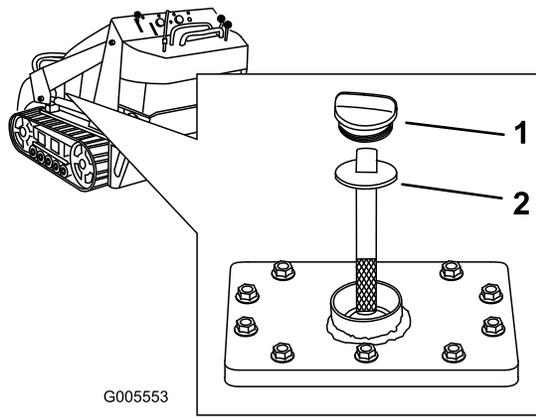

Figure 12
5. Clean the area around the filler neck of the hydraulic tank (Figure 12).
6. Remove the cap from the filler neck and check the fluid level on the dipstick (Figure 12).